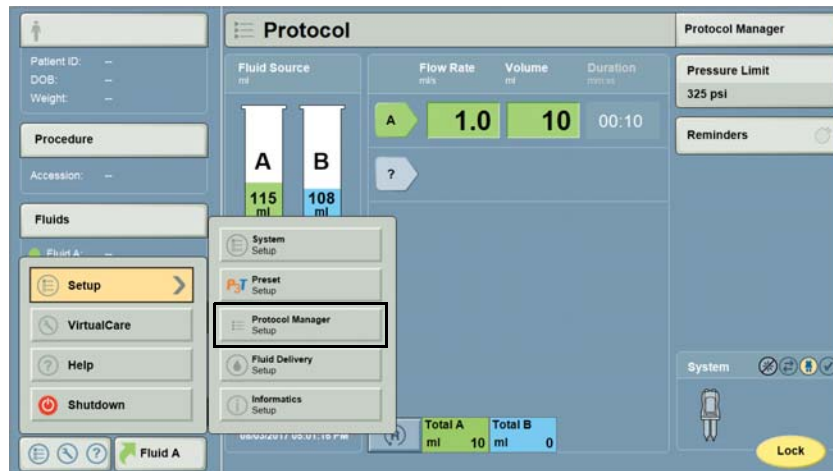

Figure 13 - 5: Setup Categories (Protocol Manager Setup)
2. Select **Protocol Setup** (Figure 13 - 5: Setup Categories (Protocol Manager Setup)).